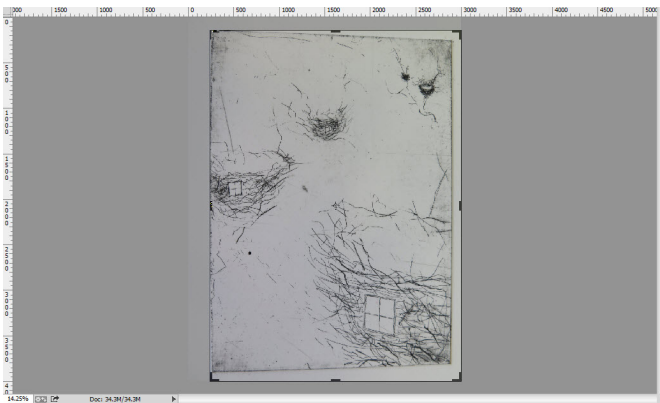

Figure 4
- First **crop** the photo to just outside the plate edge (as shown in Figure 4).